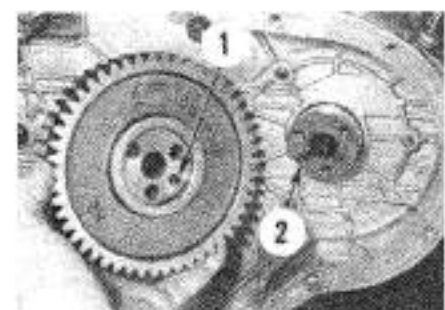

Fig. 69—Correct installation of injection pump drive gear is simplified by the dowel pin which fits in machined notch in pump drive shaft.
**67. INJECTION PUMP DRIVE GEAR.** The injection pump drive gear is retained to the pump adapter by three cap screws. When installing the gear, align dowel pin (2—Fig. 69) with slot (1) in adapter hub, then install the retaining cap screws. The injection pump drive gear and adapter are supported by the injection pump rotor bearings.